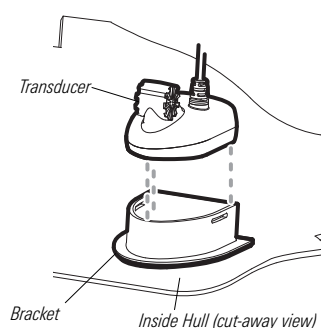

Figure 10
7. Place the transducer into the center of the bracket. Push down on the transducer until you feel it contact with the bottom of your kayak. Wiggle the transducer slightly from side to side to reduce air bubbles (Figure 10).